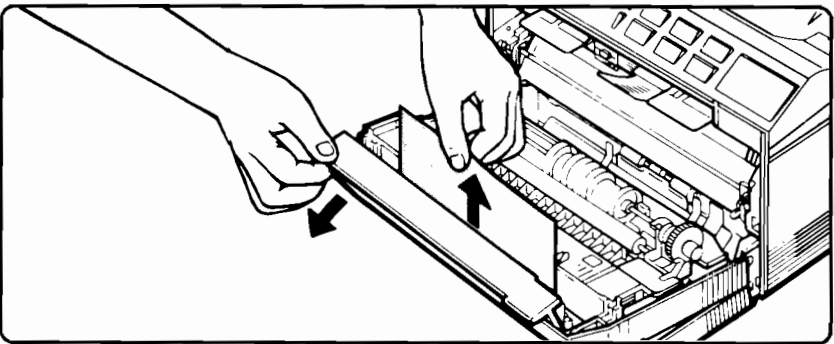

Figure 4-14. Clearing the Internal Fuser Access Door
3. Open the Internal Fuser Access Door and check for jammed paper (see Figure 4-14).